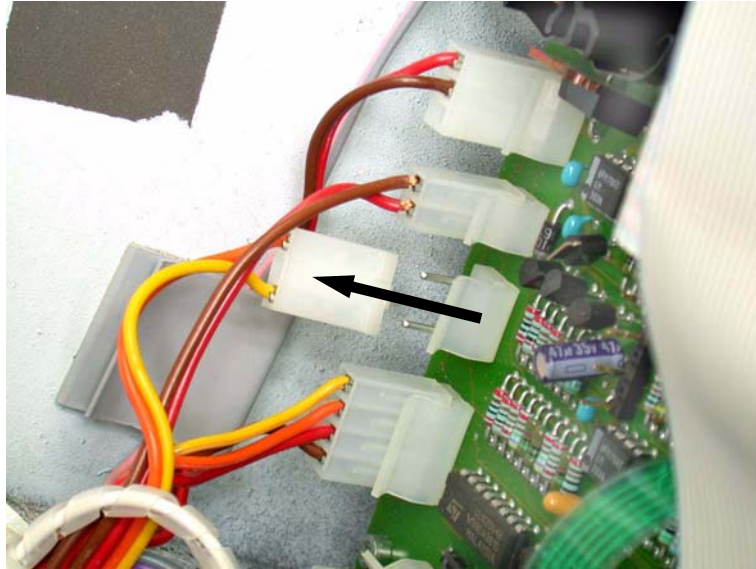

Figure 10-41. The nebulizer valve connector temporarily disconnected from the connector board
- a. Ensure that the nebulizer valve remains closed during the check, by temporarily disconnecting it from the connector board, as shown in Figure 10-41.
- d. Reconnect the nebulizer to the connector board. (This is a reversal of Figure 10-41.)